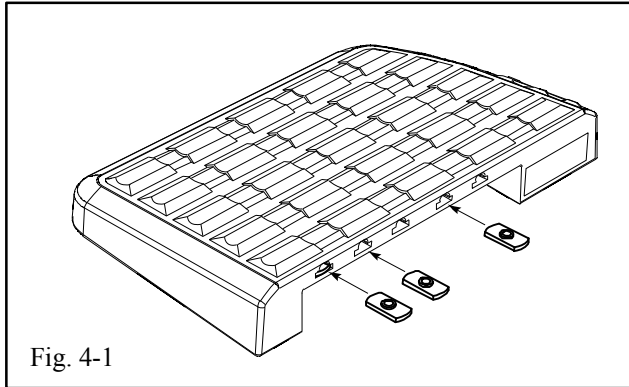

Fig. 4-1
- (b) Insert three Nut Plates into designated slots. (Fig. 4-1)
- (1) Raised lip of nut plate faces upward.
- (2) Use first, second, and fourth slots only.